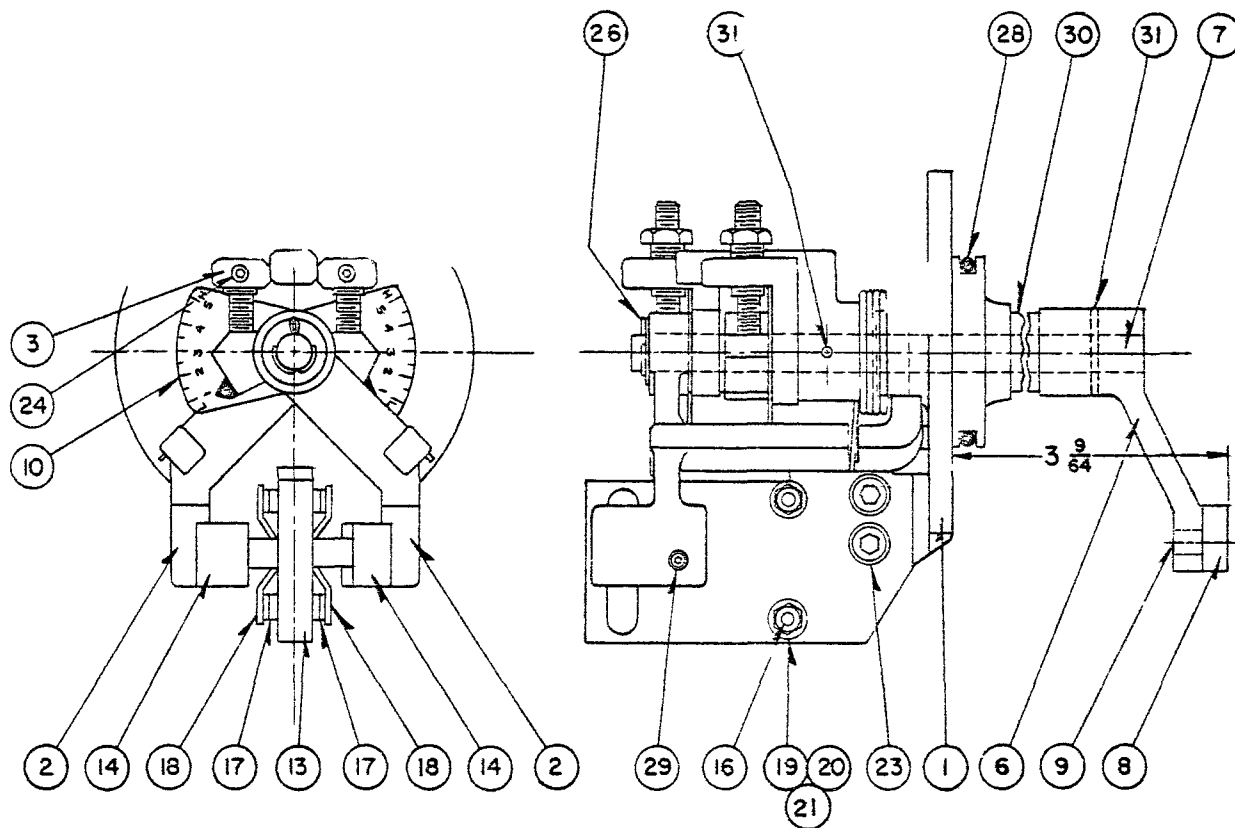

Fig. 8
H. Checking of Double Torque Switch (Figure 8, Page 62)
I. Readjustment of Double Torque Limit Switch (Figure 8, Page 62)
Numbers in parenthesis refer to Figure 8, Page 62.
1. If the torque limit switch does not stop the motor at 400 ft.lbs., unlock the jam nut Part #25 of Figure 8, Page 62 and readjust the set screw, Part #27. Removing this set screw increases the torque cutout point. Turning the set screw in, decreases the torque value.